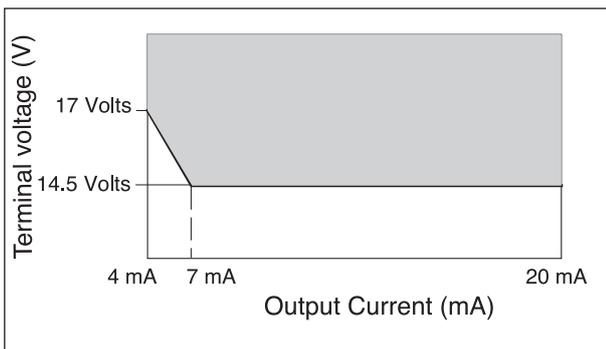

Fig.1 HART® minimum terminal voltage at the PH202
- Note:** : The transmitter contains a switched power supply, drawing its energy from the 0-4 mA section of the signal. Consequently the 17 volt limit is applied at 4 mA. The characteristic of the unit is such that above about 7 mA on the output, the terminal voltage can drop to 14.5 volts without problem. (see fig. 1)